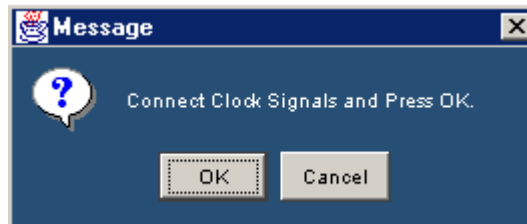

Figure 157: Clock signals message box
4. Press OK in Figure 157 Holdoff message box to continue the peak-to-peak jitter measurement and Cancel to stop running the measurement.